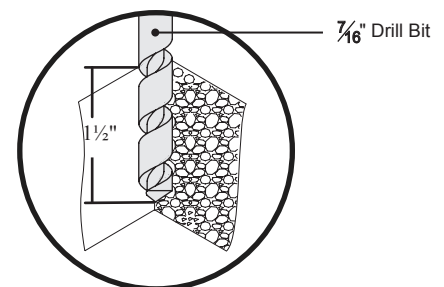

Figure 21. Drilling the Mounting Hole
- 1 At each marked location, drill a $\frac{7}{16}$ " hole $1\frac{1}{2}$ " in depth (Figure 21). Repeat this step for the remaining locations.